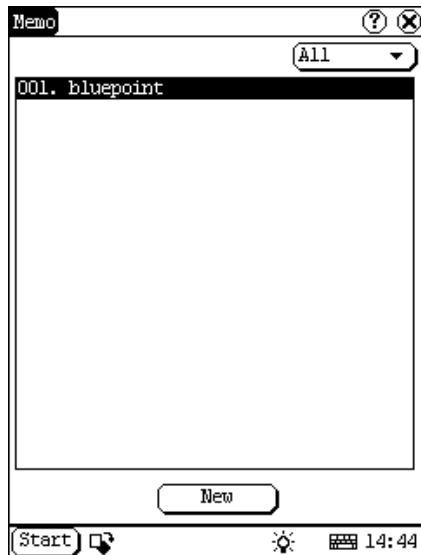

Figure 4-16
- 1) In the pop-up 'PIM' list, select 'Memo' to open the Memo interface. (See Figure 4-16)